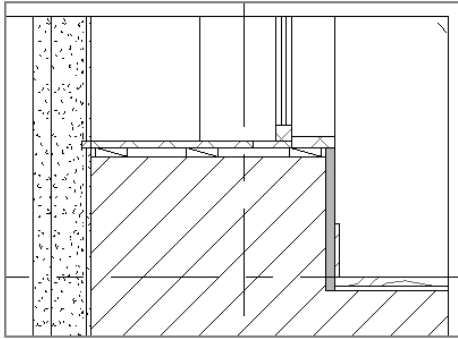

FIGURE 11.10 The sill detail with base
7. Let's make one more detail component for the baseboard. Create a new detail item using steps 1–6; for this item, use the dimensions 1" (25 mm) wide by 6" (150 mm) high, and name the new family **06 Baseboard**. Save the baseboard, and click Load Into Project. Make sure the view Exterior Window Sill, Typ. is activated, and place the baseboard at the corner of the gypsum board and finished floor. The detail looks like Figure 11.10.